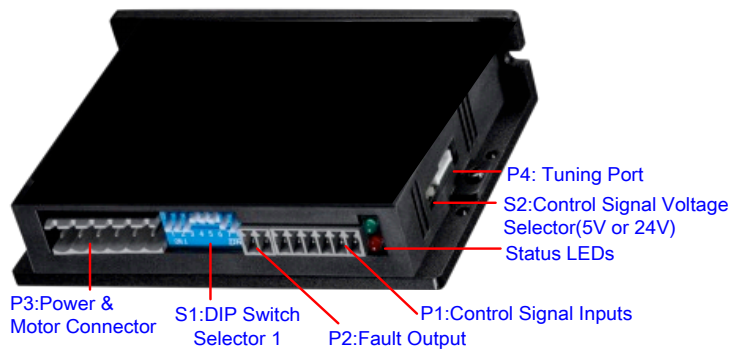

Figure 2 Connectors, DIP switches, and LED locations
PUL+	Pulse and Direction Connection: (1) Optically isolated, high level 4.5-5V or 24V, low voltage 0-0.5V (2) Maximum 200 KHz input frequency (3) The width of PUL signal is at least 2.5μs, duty cycle is recommended 50% (4) DIR signal requires advance PUL signal minimum 5 μs in single pulse mode (5) The factory setting of control signal voltage is 24V, must need to set S2 (figure 2) if it is 5V
The P4 connector in Figure 2 is a RS232 communication port for PC connection. Refer to the following pin definitions. It is just used to modify parameter, not for equipment control because neither precision nor stability is sufficient. If you need a field bus drive, use a RS485 or EtherCAT type drives
The RM42A can accept can accept differential or single-ended control signals (pulse, direction, and enable) in open-collector or PNP connection through the P1 connector (figure 2). It is recommend to add an EMI line filter between the power supply and the drive to increase noise immunity for the drive in interference environments.
- (1) ENA signal is no-connected as default;
- (2) Control signal amplitude is 24 V as default. If it is 12 V, please set the S2 (Figure 2) selector switch to 5 V first, then connect 1KΩ resistor; If it is 5V, please set the S2 to 5V.
The second 1-bit selector is located on the top (S2 in figure 2), used to configure the voltage of control signals. For the safety of optically coupled, the factory setting is 24V, which no need to connect 2K resistors like the old drives, making it easier to use. When the voltage of the control signal is 5V, the S2 must be set to 5V, otherwise, the motor won't work.